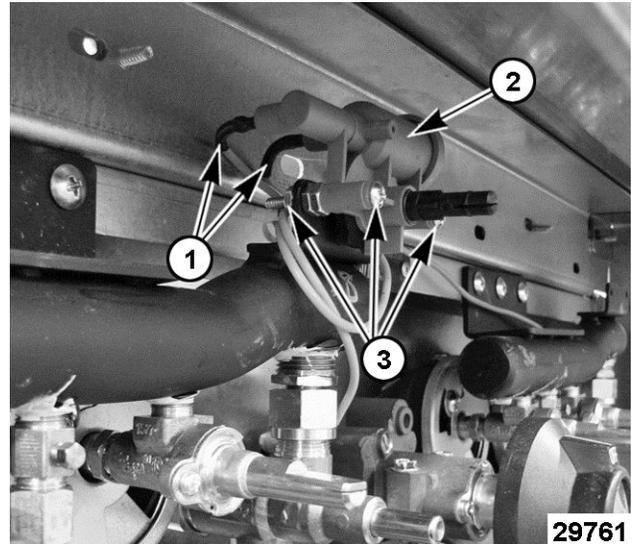

Fig. 97
2. Disconnect igniter wires (1, Fig. 97) at the rear of rotary igniter (2, Fig. 97).
3. Remove screws and nuts (3, Fig. 97) securing rotary igniter (2, Fig. 97) to the mounting bracket on gas manifold then remove rotary igniter.